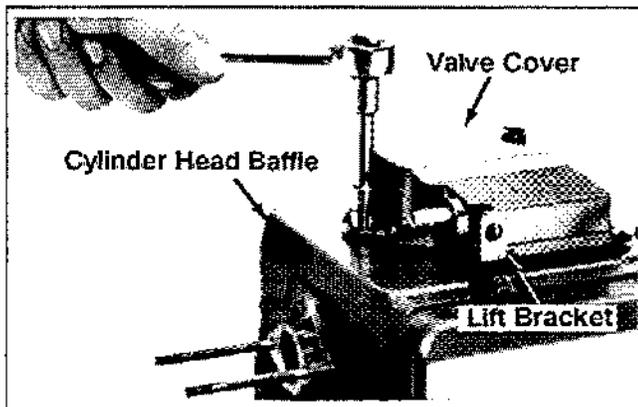

Figure 9-18. Removing Valve Cover.
1. Remove the five hex flange valve cover screws and valve cover from the cylinder head assembly. See Figure 9-18.